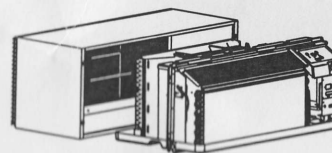

Fig.5
- Lift unit level and slide unit into wall sleeve until firmly against front of wall sleeve and secure with 4 long screws through the unit flange holes. (See Fig.5 and Fig.6)